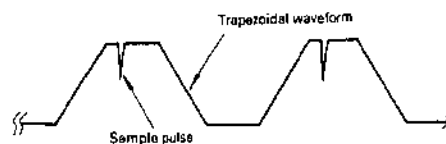

Fig. 45
- 1) Short-circuit PG509-① and PG509-② and adjust the capstan speed controls (R511, R512, R515) so that the sample pulse is locked on the trapezoid waveform or the sample pulse flows as slowly as possible on the trapezoid waveform (Fig. 45).
- 1) Short-circuit PG509-① and PG509-② and adjust the cylinder speed control (R507), so that the sample pulse is locked on the trapezoid waveform or the sampling pulse flows as slowly as possible on the trapezoid waveform. (Fig. 45)